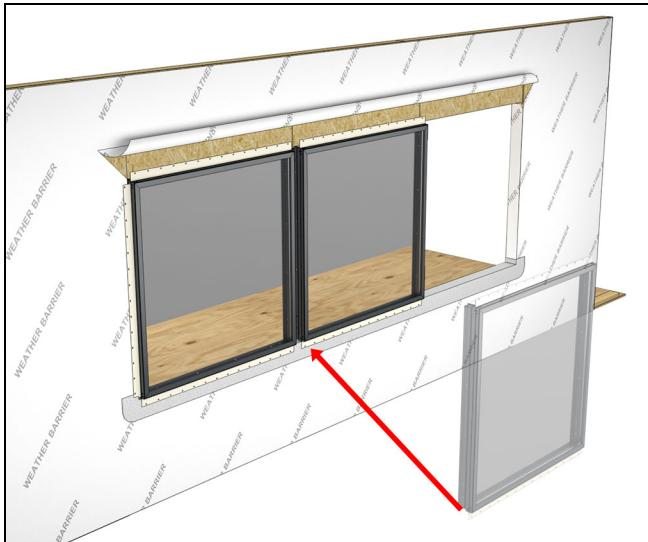
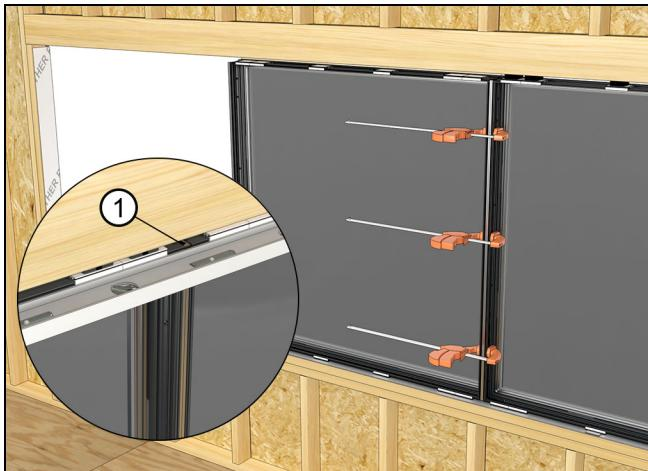

Figure 28
Figure 29
1. Set the next unit close to the A1 unit. Clamp the two units together making sure the windows are flush to one another on all planes (interior/exterior and top and bottom). See Figure 28 and Figure 29.